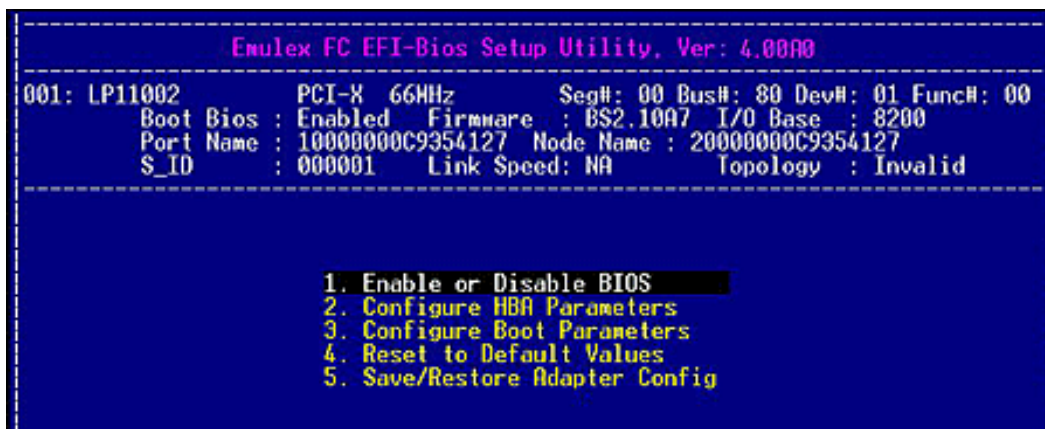
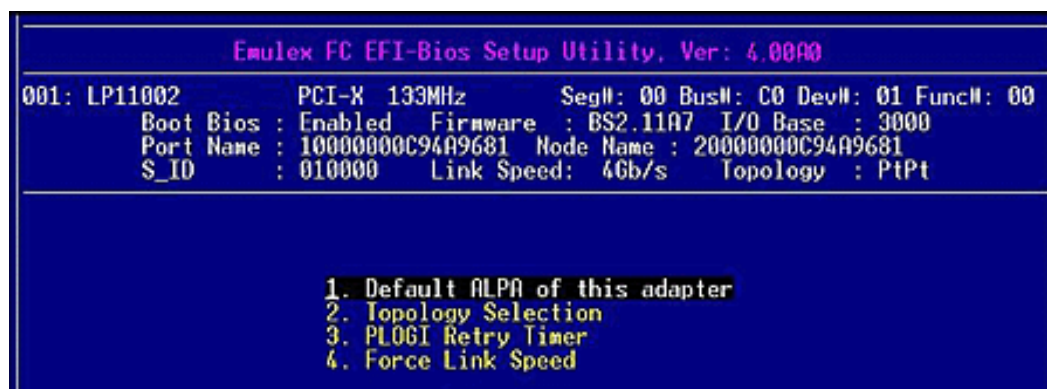

Figure 6-6 EFI – BIOS Setup Utility Menu
Figure 6-9 Adapter Configuration Menu
1. From the Main EFI – Bios Utility menu, select **1. Setup Utility** and press **<Enter>**. The EFI – BIOS Setup Utility menu is displayed (Figure 6-6).
From the EFI – BIOS Setup Utility menu (Figure 6-6) select **2. Configure HBA Parameters** and press **<Enter>**. The Adapter Configuration (Figure 6-9) is displayed.
From the EFI - BIOS Setup Utility menu (Figure 6-6), select **3. Configure Boot Parameters** and press <Enter>. The menu shown in Figure 6-14 is displayed.